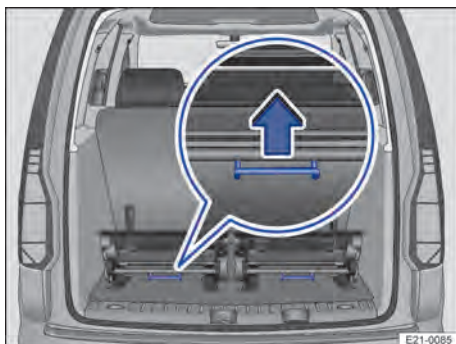

Fig. 77 Third row of seats: Removing the seats.
2. Pull the lever underneath the seat upwards → Fig. 77 (close-up) to release the seat.